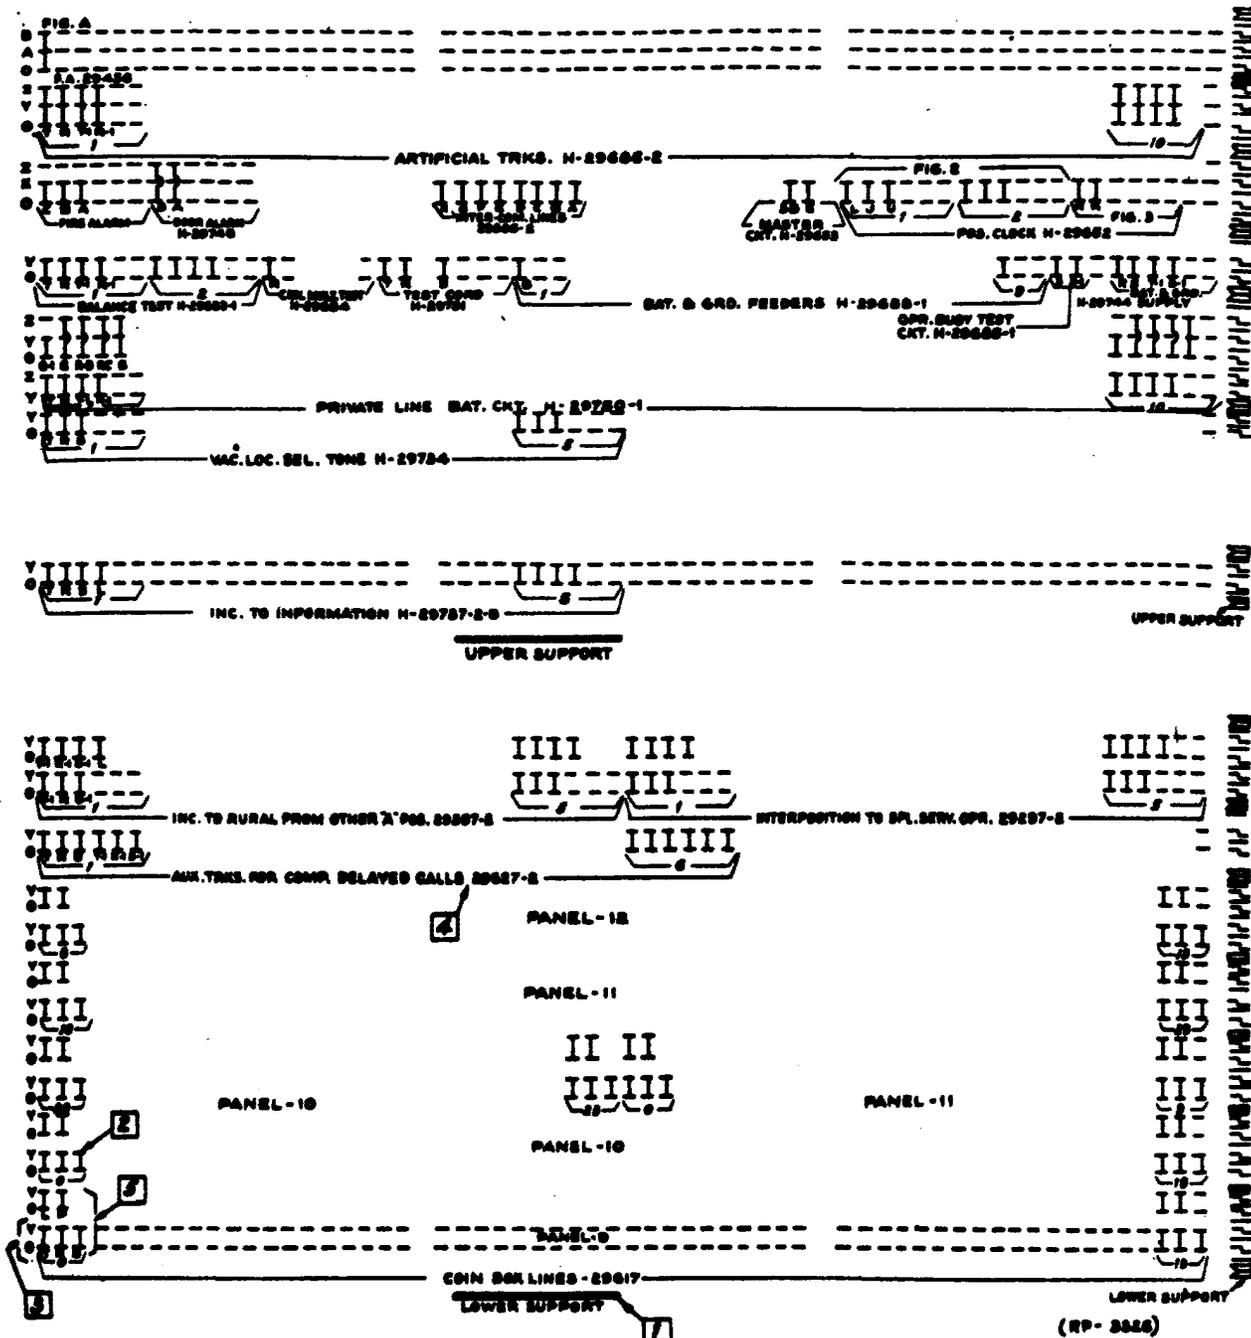

FIG. 4 TYPICAL RELAY RACK TERMINAL ASSEMBLY DRAWING
4.2 Each bay has a different connecting arrangement and thus different drawings are made for each. Figure 4 is an exact copy of one of these drawings. A careful study and thorough understanding of this type of drawing is necessary in order to assemble and connect these relay rack terminal assemblies correctly.
4.3 It will be noted from Figure 4 that the assembly drawing for any particular bay is divided into two portions designated by a heavy line under each portion as (1). The assembly is 60 terminals wide and the terminals
4.9 It is often the case that all the insulators are not shown and in this case refer to Figure 4 of this section. It is common practice when more than one assembly drawing is shown on one sheet that only one assembly drawing of that sheet will show the details of the pile up.